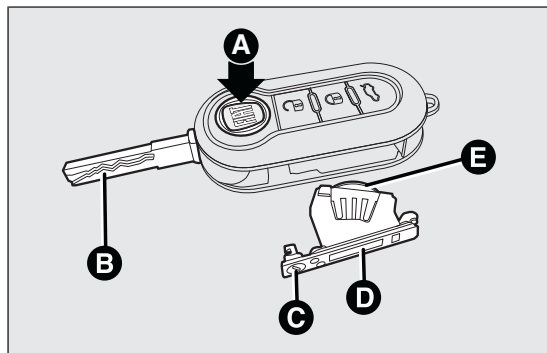

fig. 5
- ☐ press button A fig. 5 and open the metal insert B fig. 5;
- ☐ turn the screw C fig. 5 to  using a fine bit screwdriver;
- ☐ take out the battery case D fig. 5 and replace the battery E fig. 5 making sure that polarities are correct;